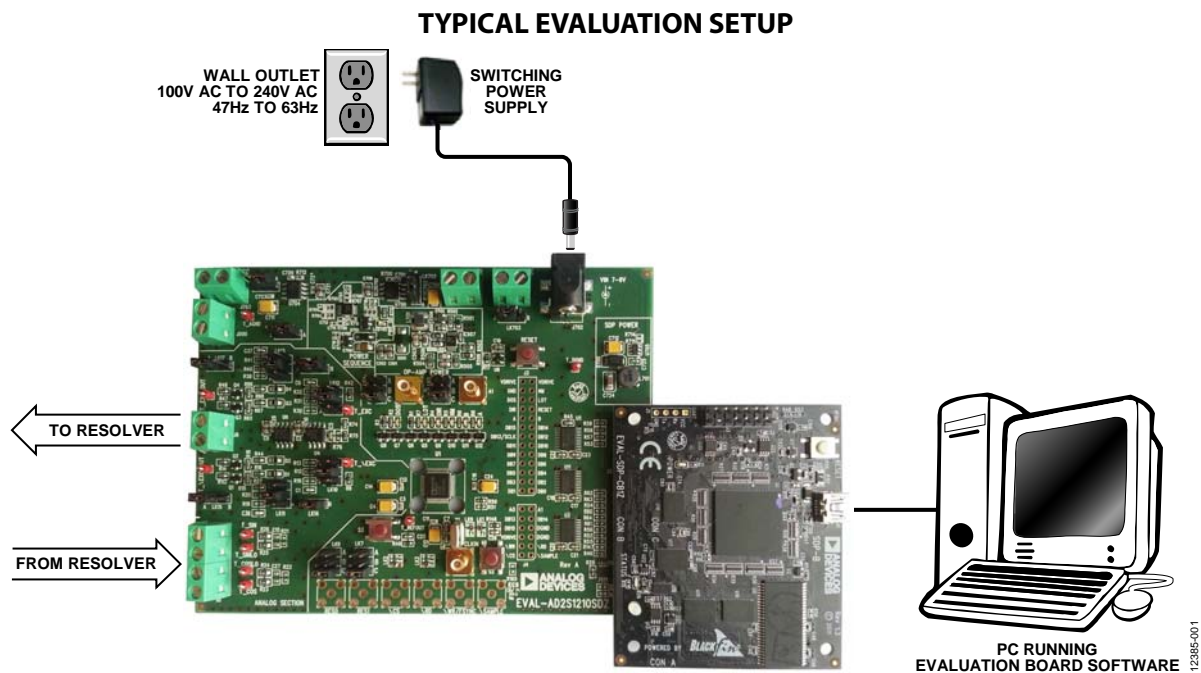

Figure 1. Typical Setup Using the **EVAL-AD2S1210SDZ** (Left) and the **EVAL-SDP-CB1Z** (Right)
7. Connect the EXC, EXC, SIN, SIN, COS, and COS wires of the resolver to Connector J5 and Connector J6, as shown in Figure 1.